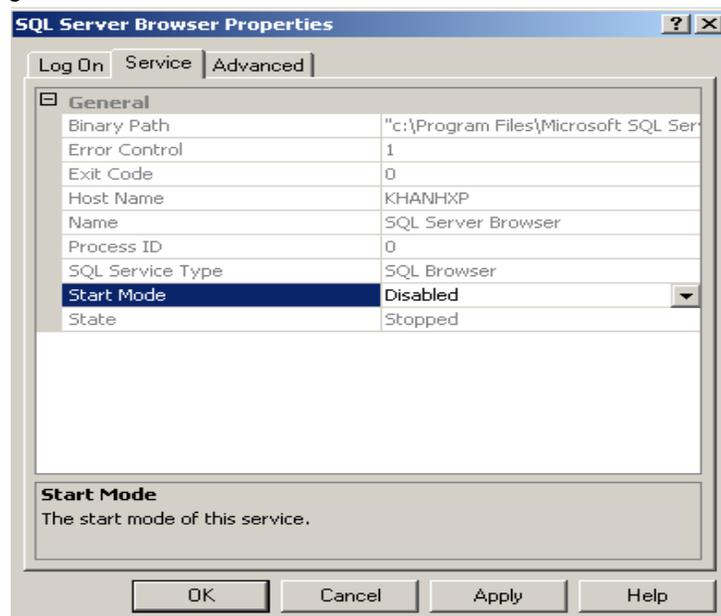

Figure 38
- Change start mode of **SQL Server Browser** from Disabled to Automatic (**Figure 38**) and start the service.